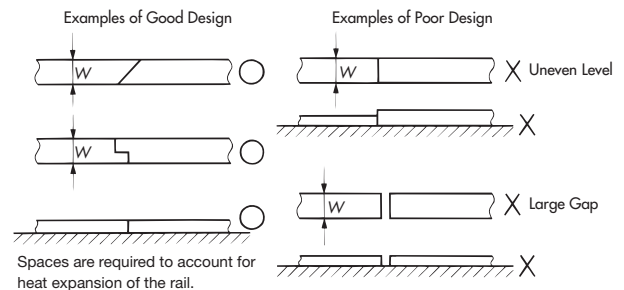

Figure 4: Rail Joints
1. Lubricate all rail connecting parts, chamfer edges, and eliminate uneven levels and gaps. (See Figure 4.)